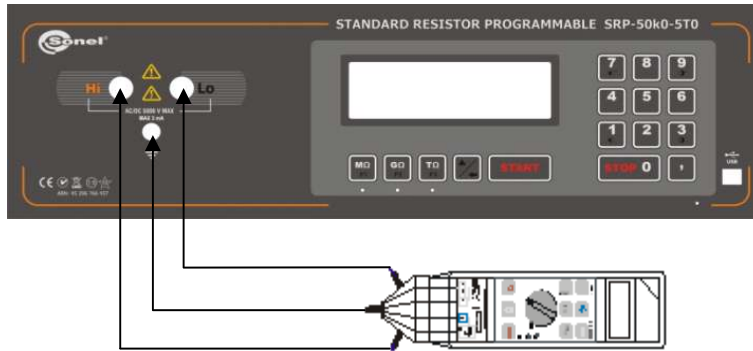
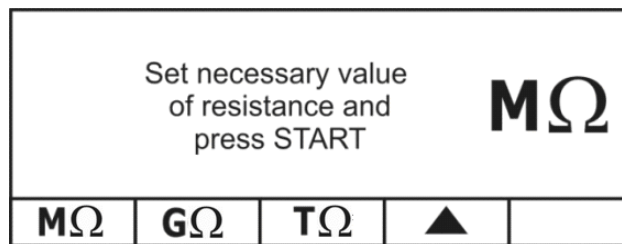

Figure 3 Connecting the meter to the calibrator.
Figure 4 Calibrator display after turning on
- ③ Connect the tested meter to the measuring circuit (see Figure 3). The calibrator is in standby mode, no resistance values are set (see Figure 4).